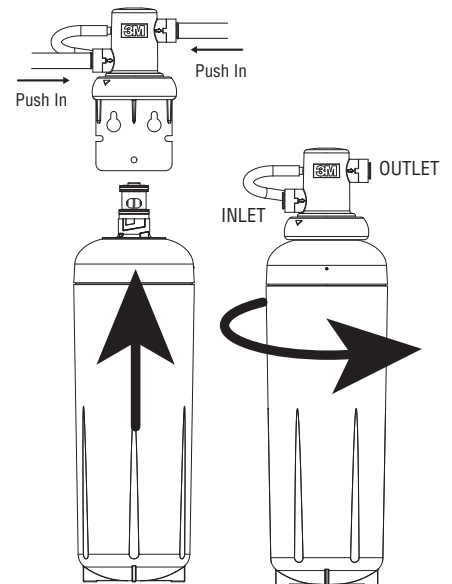

Figure 5
6. Insert 3/8" tubing from faucet adapter fitting into the filter OUTLET fitting as shown in Figure 5.
8. Using a ferrule, nut and tube support (not included, see optional kit 3MDWIKT), slide nut and ferrule over 3/8" tubing, insert tube support and connect to the cold water supply valve. (See Figure 4) Insert other end into filter INLET fitting as shown in Figure 5.
10. Align lugs of filter with head assembly and insert filter into head assembly. Turn filter to the right (clockwise) until it stops (about 1/4 turn). The filter is now installed. (See Figure 5)
- The disposable replacement filter **must** be replaced every twelve (12) months, at the rated capacity or sooner if a noticeable reduction in flow rate occurs.
5. Insert replacement filter into filter head assembly. Turn replacement filter one quarter turn to the right (clockwise) until it stops. When fully engaged, the top surface of the filter will be flush with the bottom of the filter head assembly. (See Figure 5)